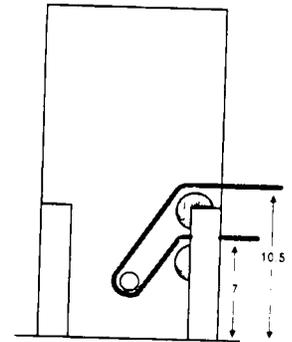

FIGURE 1.7.1A
1. Before mounting the operator to the pad, position the chain idlers as shown in figure 1.7.1A.
3. Position the operator on the pad so that there is a minimum clearance of one (1) inch between the back of the operator and the fence.
3. Position the operator on the mounting plate. If the mounting plate assembly has been installed correctly, there should be a minimum clearance of one (1) inch between the back of the operator and the fence, and the back of the operator should be parallel with the gate. **If these conditions do not exist, make corrections now!**